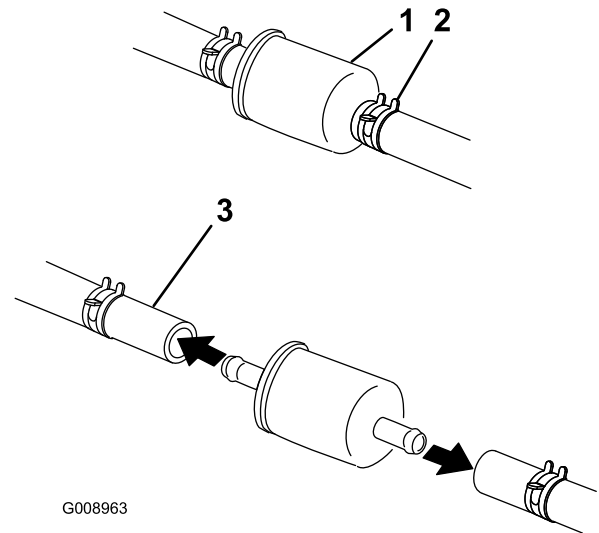

Figure 52
6. Squeeze the ends of the hose clamps together and slide them away from the filter (Figure 52).
8. Install a new filter and move the hose clamps close to the filter (Figure 52).